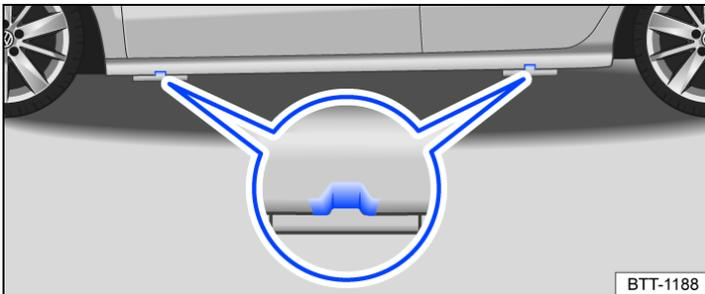
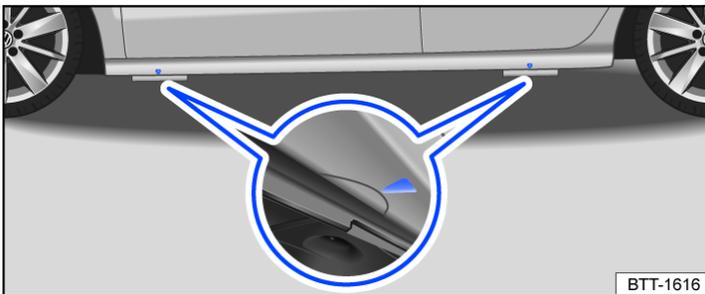

Fig. 1 Lift points for the vehicle jack(variant 1).
Fig. 2 Lift points for the vehicle jack(variant 2).
The vehicle jack must only be positioned at the reinforced areas on the underbody that are located behind the markings on the vehicle body → *fig. 1* or → *fig. 2*. The lift point that is nearest the affected tire should be used → ⚠.
10. Find the vehicle lift point → *fig. 1* or → *fig. 2* under the vehicle that is closest to the wheel you will be changing.